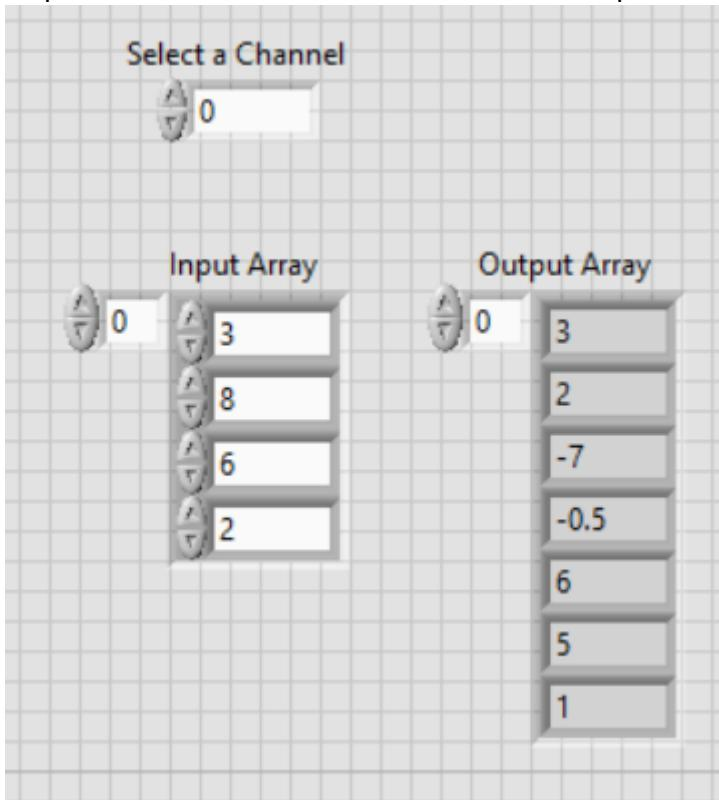

Fig. 2. Front Panel of the Programming Task of First Question
- 3) In this part, you are required to implement convolution of two discrete time sequences in LabVIEW environment. The front panel is seen in Fig. 2.
The input sequence is entered manually as shown in Fig. 2 through an Array Numeric control. The convolution of this input sequence with two different channels (impulse responses) will be implemented. If "**Select a channel**" input is entered as **0**, then the impulse response is given by,
Assume that the first element of the input sequence corresponds to $n=0$, that is, the example input sequence in Fig. 2 is
length of the channel impulse responses in this task is $P=4$, we expect the size of the indicator array which shows the output sequence in Fig. 2 is $(N+3)$. As a hint, you can append three zeros at the end of the input sequence. But, **you are required to do it inside the code (i.e., block diagram)**, not by entering three additional zeros. That means if the input sequence is [3 8 6 2] as in Fig. 2, we only enter 3,8,6,2 values without additional zeros.